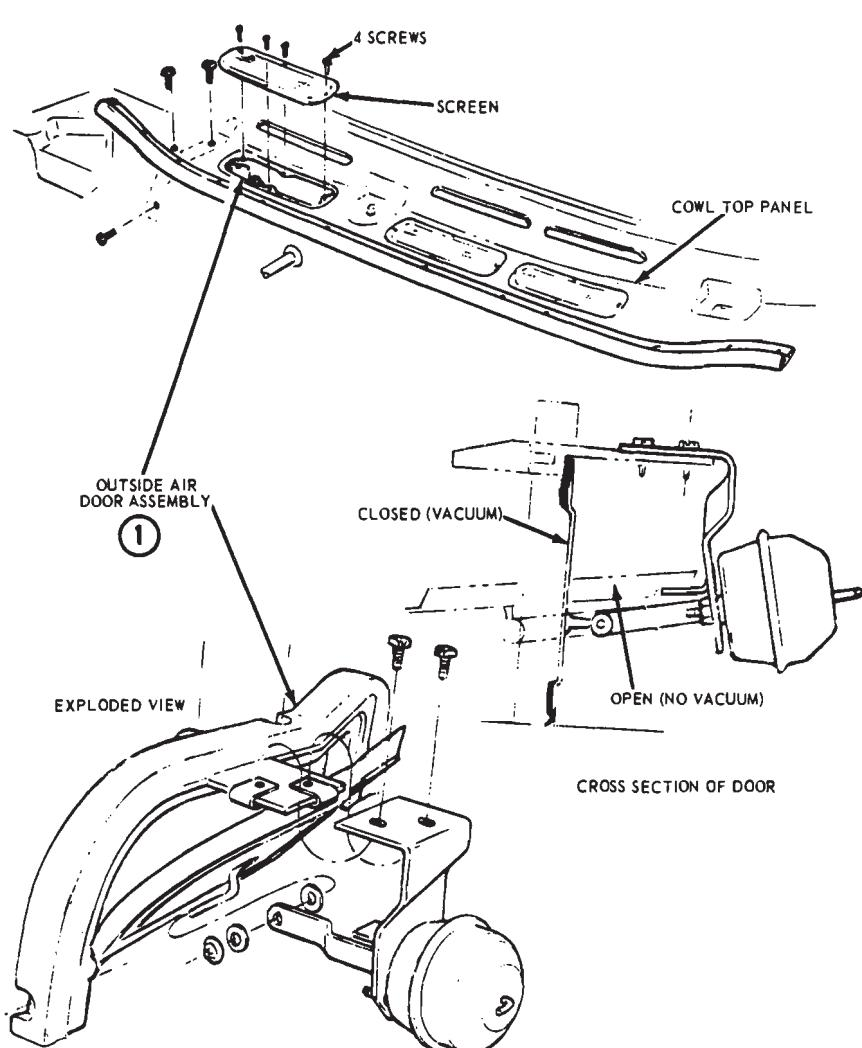

FIG. 34—Manual A/C-Heater System Outside Air Door Assembly—Lincoln Continental
1. Remove the top cowl air inlet screen (Fig. 34, View A).
2. Loosen the Outside Air Door-to-vacuum motor mounting screws (Fig. 34, View B). Two slots are provided in the top of the motor mounting bracket for preload adjustment.